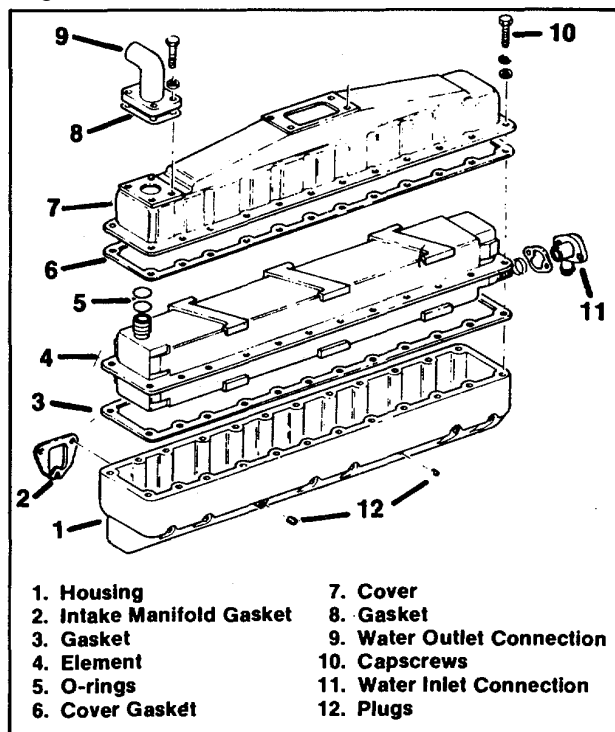

Fig. 10-2 (N10899). Cross-Bolt Design Aftercooler - Exploded View.
1. Put the aftercooler housing (10, Fig. 10-2) on a workbench. Hold the housing so that it will be in the same position as it is on the engine.
2. Apply clean lubricating oil to the new O-rings (2). Install the O-rings to the inlet and outlet fittings of the element (1). Install the element into the housing.